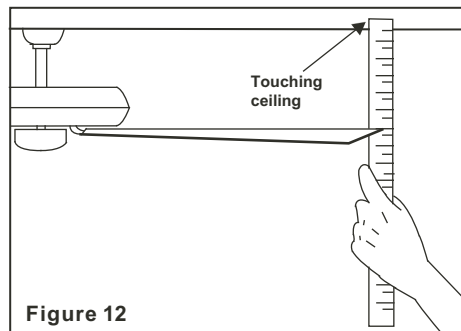

Figure 12
2. Most fan wobbling problems are caused when blade levels are unequal. Check this level by selecting a point on the ceiling above the tip of one of the blades. Measure this distance as shown in Figure 12. Rotate the fan until the next blade is positioned for measurement. Repeat for each blade. The distance deviation should be equal within 1/8".